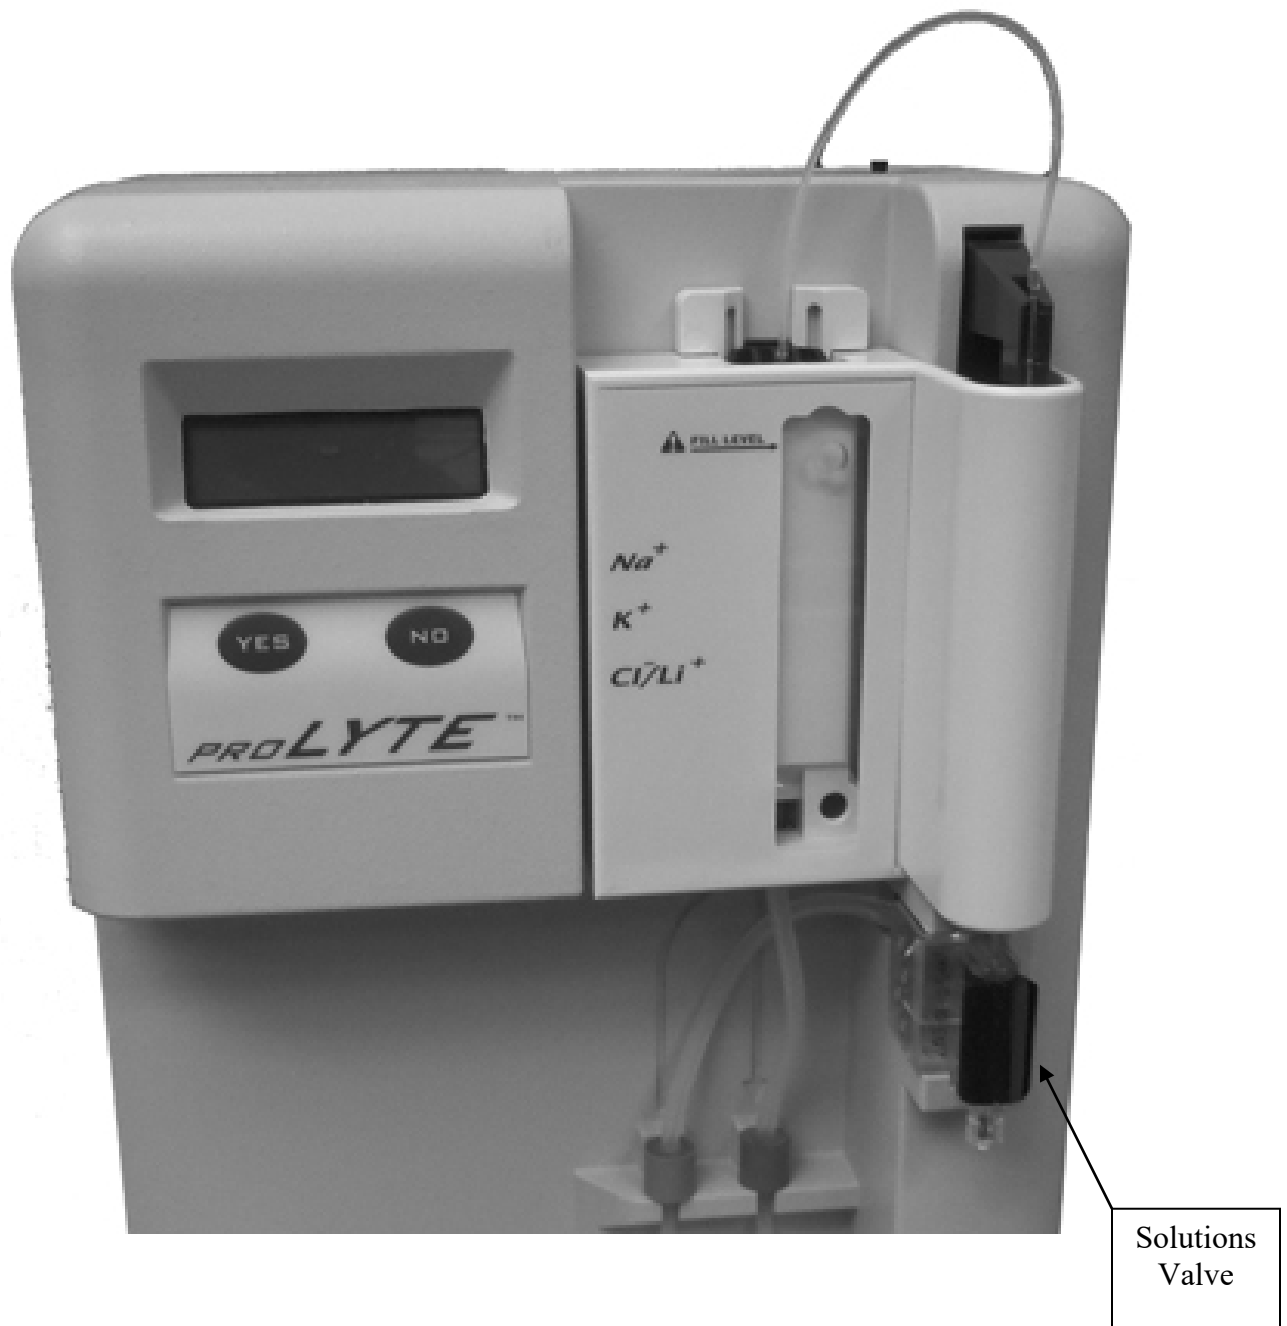

Figure P14 - Solution Valve Removal/Installation
5. Install the sample probe. Refer to Figure P14 for details.